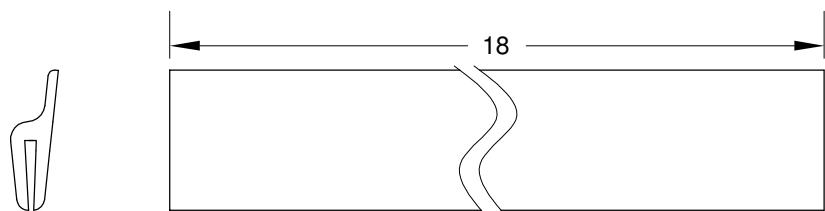

FIGURE 2: CREATING THE GAP SEAL
Step 6: Cut and install a piece of Rubber Channel to create the **F-1094C** Gap Seal as shown in Figure 2. This will allow extra material to account for material shrinkage over time and allow extra material so the ends can be trimmed to match the **F-1094A** Empennage Gap Cover.